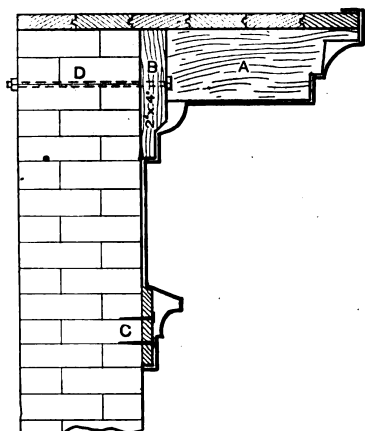

Fig. 1.—Side Elevation of Wooden Lookout Secured to Wall.
*Answer.*—In Figs. 1 and 2 is shown one method by which a cornice can be attached to a brick building, using wooden lookouts for the purpose, the lookouts being secured without removing any of the brick work. In the side elevation, A represents one of the lookouts, which is fastened to B with nails, screws or bolts, as may be desired. To secure the lookout to the wall a hole is first drilled, then the bolt D passed through the piece of wood B